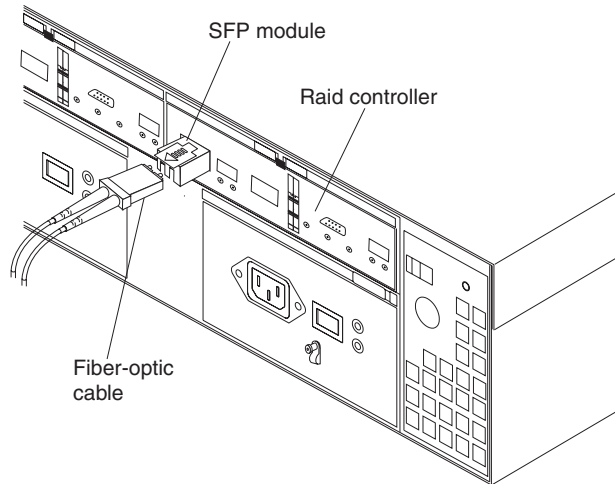

Figure 35. Connecting cables to the installed SFP
2. Connect the fiber-optic cable to the installed SFP, as shown in Figure 35 on page 38.